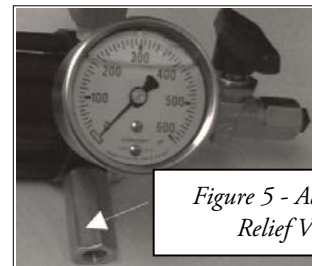

Figure 5 - Adjustable Relief Valve
1. If your cylinder is equipped with an adjustable relief valve (see Figure 5), use an auxiliary gas supply to set the valve at least 50-100 psi above pipeline pressure, not to exceed the maximum allowable working pressure indicated in Table 1 on page 5 (refer to IO&M for relief valve).